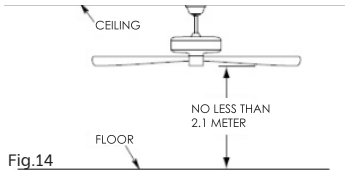

Fig.14
- On completion of installation the distance from floor to lowest point of fan blades must not be less than 2.1 Metres (Fig.14).